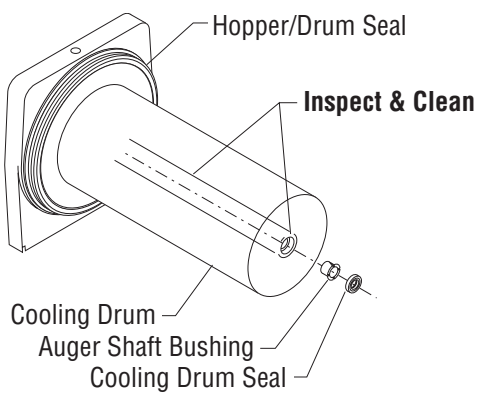

FIG 4
8. Inspect inside of the cooling drum from the rear for product leakage and clean thoroughly with an extended bristle brush (Bunn part no. 40500.1068) and warm sanitize solution, rinse and dry with a towel. Clean the front seal/bushing area of the cooling drum thoroughly with the bristle brush. Refer to Fig. 4 for areas to be cleaned.
7. Refer to Fig. 4 when reconnecting the wires.